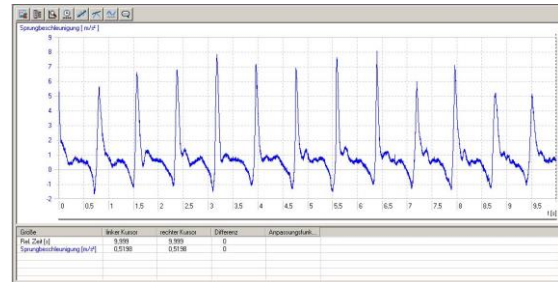

Fig. 1 Typical acceleration behaviour at the ankle of a skipping person, recorded with the 3B NET/lab™
- Simultaneously start the recording of an experimental data curve in 3B NET/lab™ (Fig. 1).
In Figure 1 it can be seen that, in addition to the skipping acceleration signal, there is a constant gravitational acceleration of 9.81 m/s², resulting in a background value of 1g.